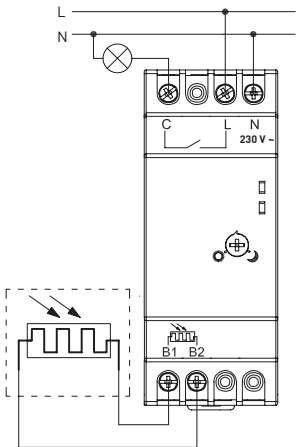

Figure 3 – Wiring diagram for twilight relay DIN-1 (FR)
3. Follow the wiring diagram (Figure 3) to connect the wires.
4. Install the sensor in a location exposed to direct sunlight, but away from any additional light sources. Follow Figure 3 to connect the sensor to the relay.